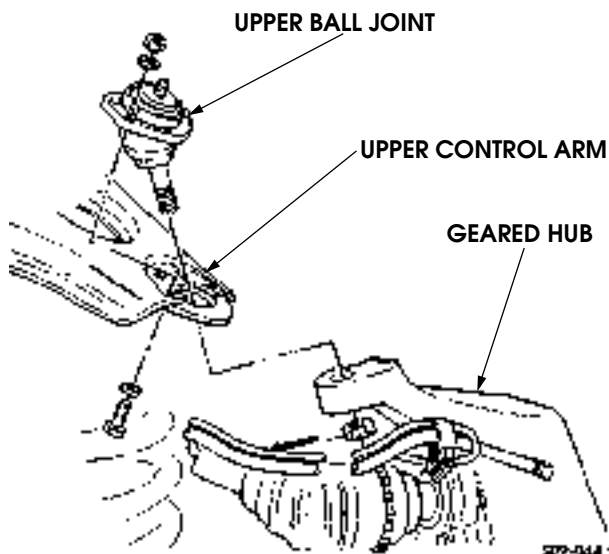

Figure 9-6: Upper Ball Joint Replacement
4. Remove cotter pin and slotted nut from upper ball joint (Figure 9-6).
1. Position upper ball joint on upper control arm, ensuring upper ball joint is placed above upper control arm (Figure 9-6).